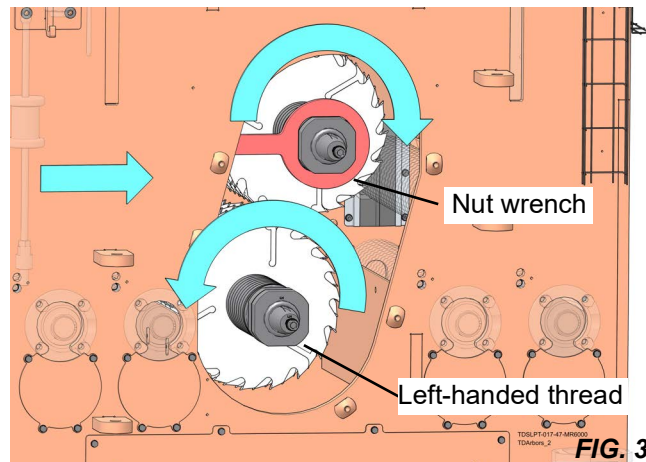

FIG. 3-15
- c. For the upper arbor, depending on the machine orientation, turn the wrench clockwise if the cutout is slanted upwards to the right. See Fig. 3-15.
- e. For the lower arbor, depending on the machine orientation, turn the tool counter-clockwise if the cutout is slanted upwards to the right. See Fig. 3-15.